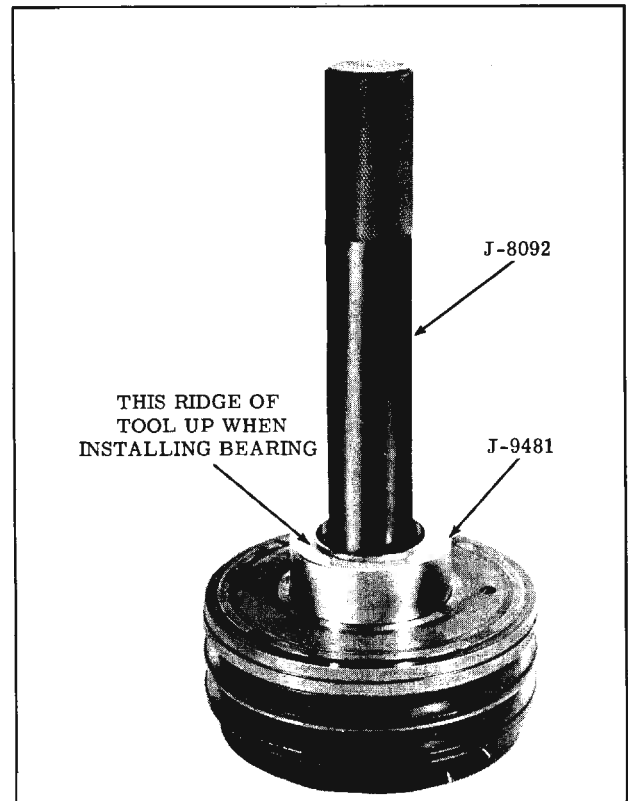

Fig. 15-49 Installing Pulley and Drive Plate Bearing
c. Install new bearing as shown in Fig. 15-49, then install retaining ring.